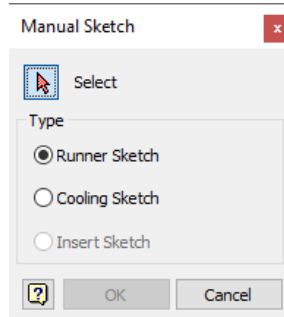

Figure 19-80 The Manual Sketch dialog box
1. Choose the **Manual Sketch** tool from the **Auto Runner Sketch** drop-down in the **Runners and Channels** panel in the **Mold Layout** tab of the **Ribbon**; the **Manual Sketch** dialog box is displayed, as shown in Figure 19-80.